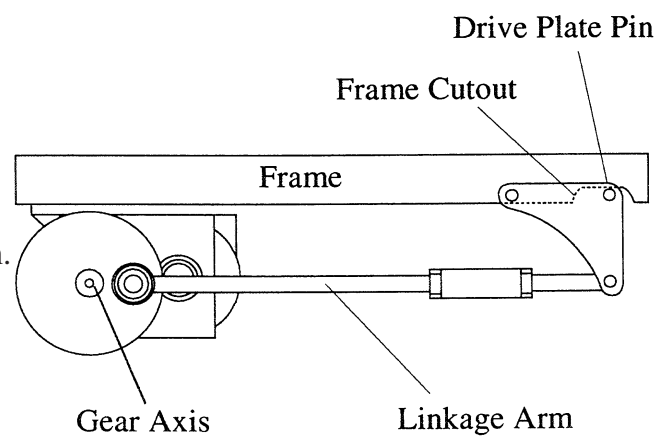
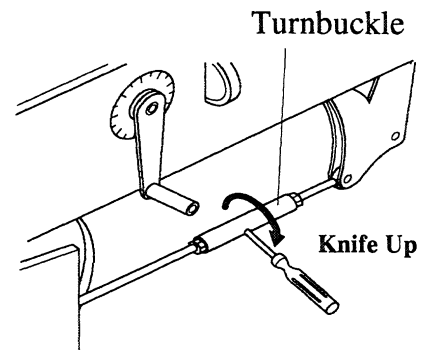

Fig. 4-6
Fig. 4-8
- Open front door (Fig. 4-5) to be able to check gear axis and linkage arm. (Fig. 4-6)
- And stop cycle when knife reaches absolute highest point of its stroke. When the linkage arm is in line with the large gear axis. (Fig. 4-6)
- Loosen knife adjusting turnbuckle lock nuts. (Fig. 4-8)
- Turn turnbuckle in direction shown in Fig. 4-8 to raise knife completely until resistance is felt and drive plate pin is hitting frame. (Fig. 4-6)